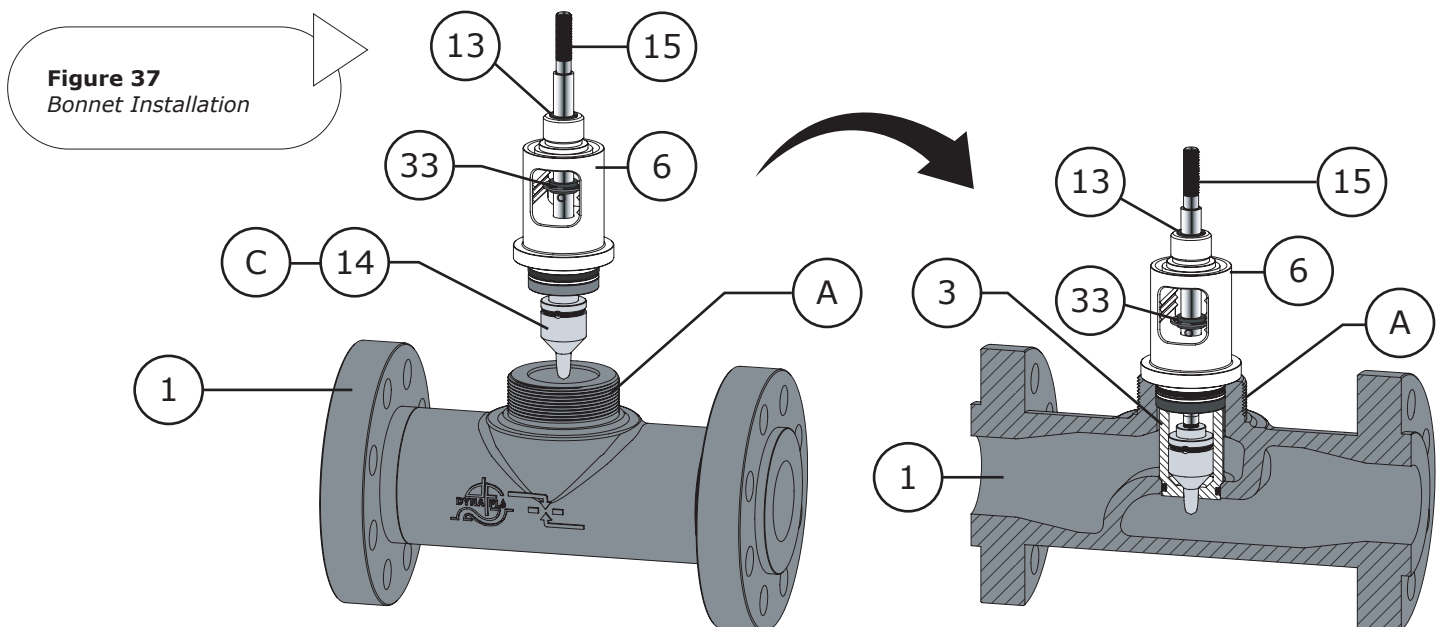

Figure 37
- 7 Apply Lubriplate® No. 105 Grease (Key C) to surface of the valve plug (Key 14) and carefully insert the bonnet assembly into the valve body and orientate the window of the bonnet (Key 6) so that it is perpendicular to the valve body (Key 1) as shown in Figure 37. **NOTE:** It is important that the valve plug not be rotated once it is placed into the valve seat (Key 3 & 3B). Rotating or dropping the plug in the seat can cause damage to both.